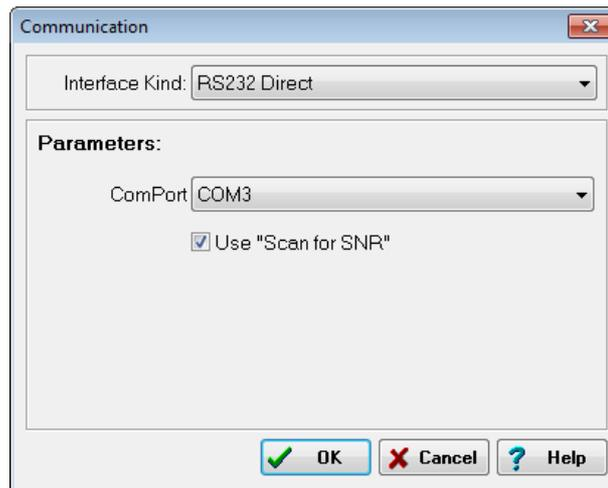

Fig. 6-1 Specifying the interface.
2. Specify the interface for the connection, e.g. **COM5** (Fig. 6-1). Refer also to Section 5.5, page 26. During the installation of the interface driver for USB, the connection is displayed. Also activate **“Use scan for SNR”**, because, as delivered, all modules have the address 1. If you change the addresses during configuration so that each module receives its own address, you can later deactivate the option.